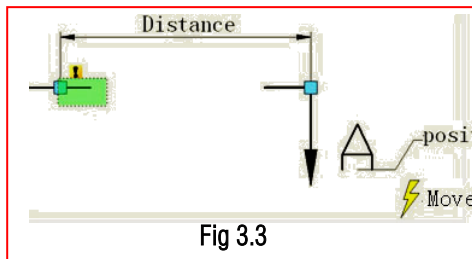

Fig 3.3
3. Specify objects which rotate only for Polar Stretch Action (Fig 3.3).